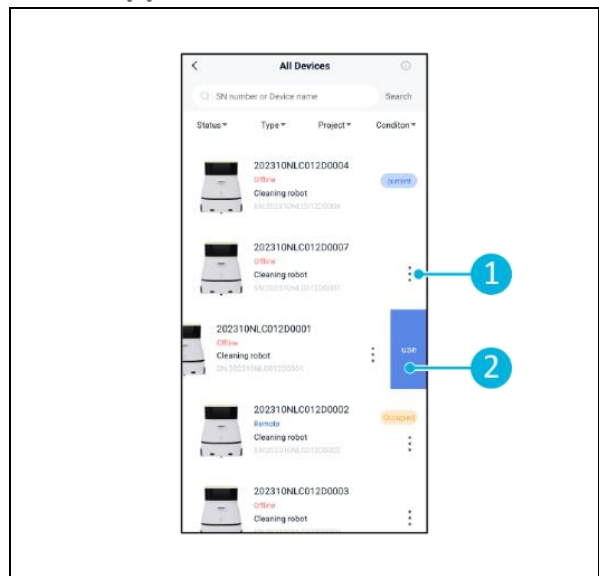

Figure 19
3. Select the [\[three dots\]](#) (Figure 19, pos. 1).
4. Select [\[use\]](#) (Figure 19, pos. 2).